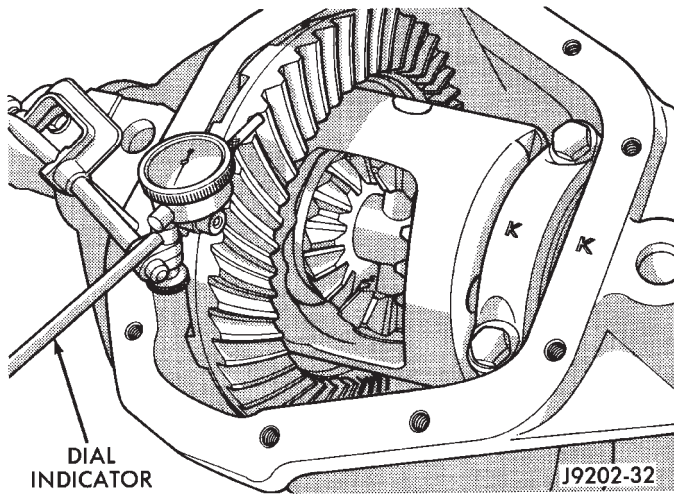

Fig. 61 Ring Gear Backlash Measurement
(25) This is the thickness shim required on the ring gear side of the differential case to achieve proper backlash.
(26) Subtract the backlash shim thickness from the total preload shim thickness. The remainder is the shim thickness required on the pinion side of the axle housing.
(27) Rotate dial indicator out of the way on guide stud.
(28) Remove differential case and dummy bearings from axle housing.
(29) Install side bearing shims on differential case hubs.
(30) Install side bearings and cups on differential case.
(31) Install spreader W-129-B on axle housing and spread axle opening enough to receive differential case.
(32) Install differential case in axle housing.
(33) Remove spreader from axle housing.
(34) Rotate the differential case several times to seat the side bearings.
(35) Position the indicator plunger against a ring gear tooth (Fig. 61).
(36) Push and hold ring gear upward while not allowing the pinion gear to rotate.
(37) Zero dial indicator face to pointer.